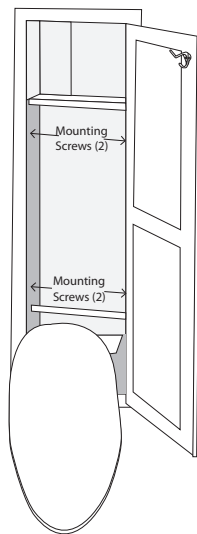

Figure 4
- b) Install the garment hook using the two mounting screws supplied. The placement of the garment of hook should be 2" from the top edge and 3/4" from the side edge of the door. Test for obstructions when closing door prior to fastening garment hook to door. (See Figure 4)